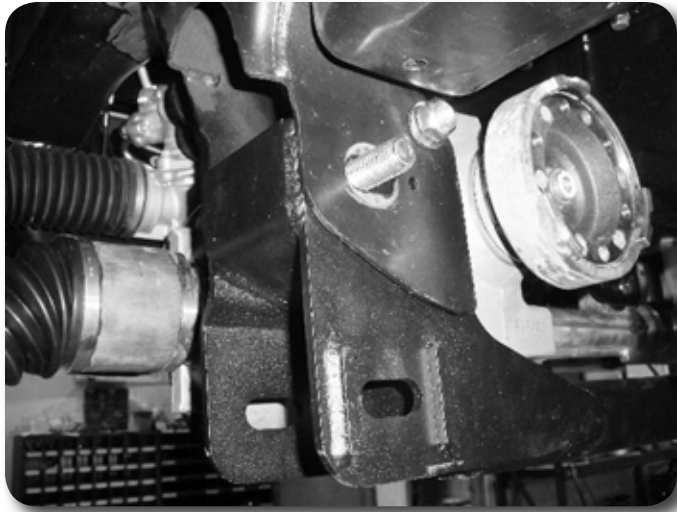

Figure 21
35. Fasten the differential to the rear crossmember Figure 21 with a 9/16" bolt, washers, and nut. Run the bolt from front to rear. Leave hardware loose.